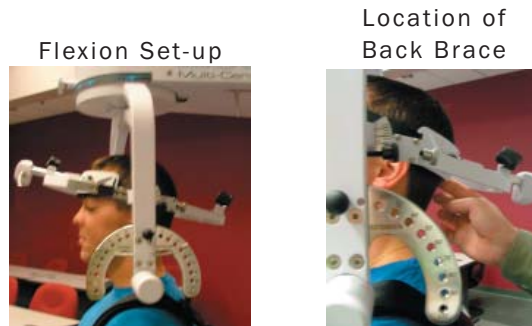

Figure 6-38. Initial Isometric Flexion & Extension Set-up
Step 8. For a flexion test, insert the front head brace. For an extension test, insert the back head brace. Note that the bottom of the back brace is located at the external occipital protuberance (Figure 6-38).